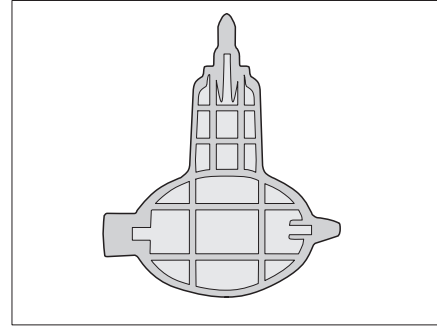

Fig. 341 Key for Siphon (only Alpa)
- ▷ The Alpa model has a key (Fig. 341) enclosed for the releasing the siphon.